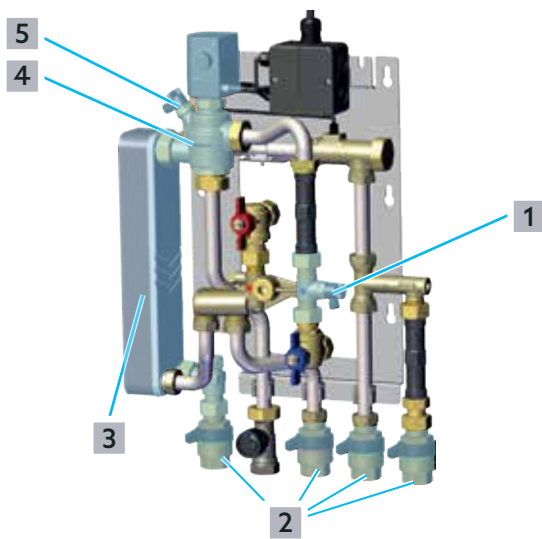

Fig. 19: Removing and cleaning the heat exchanger
Connect a hose line to the drain valve ((1) in Fig. 19 on page 29) in the primary circuit to make it easier to direct escaping water into a container.